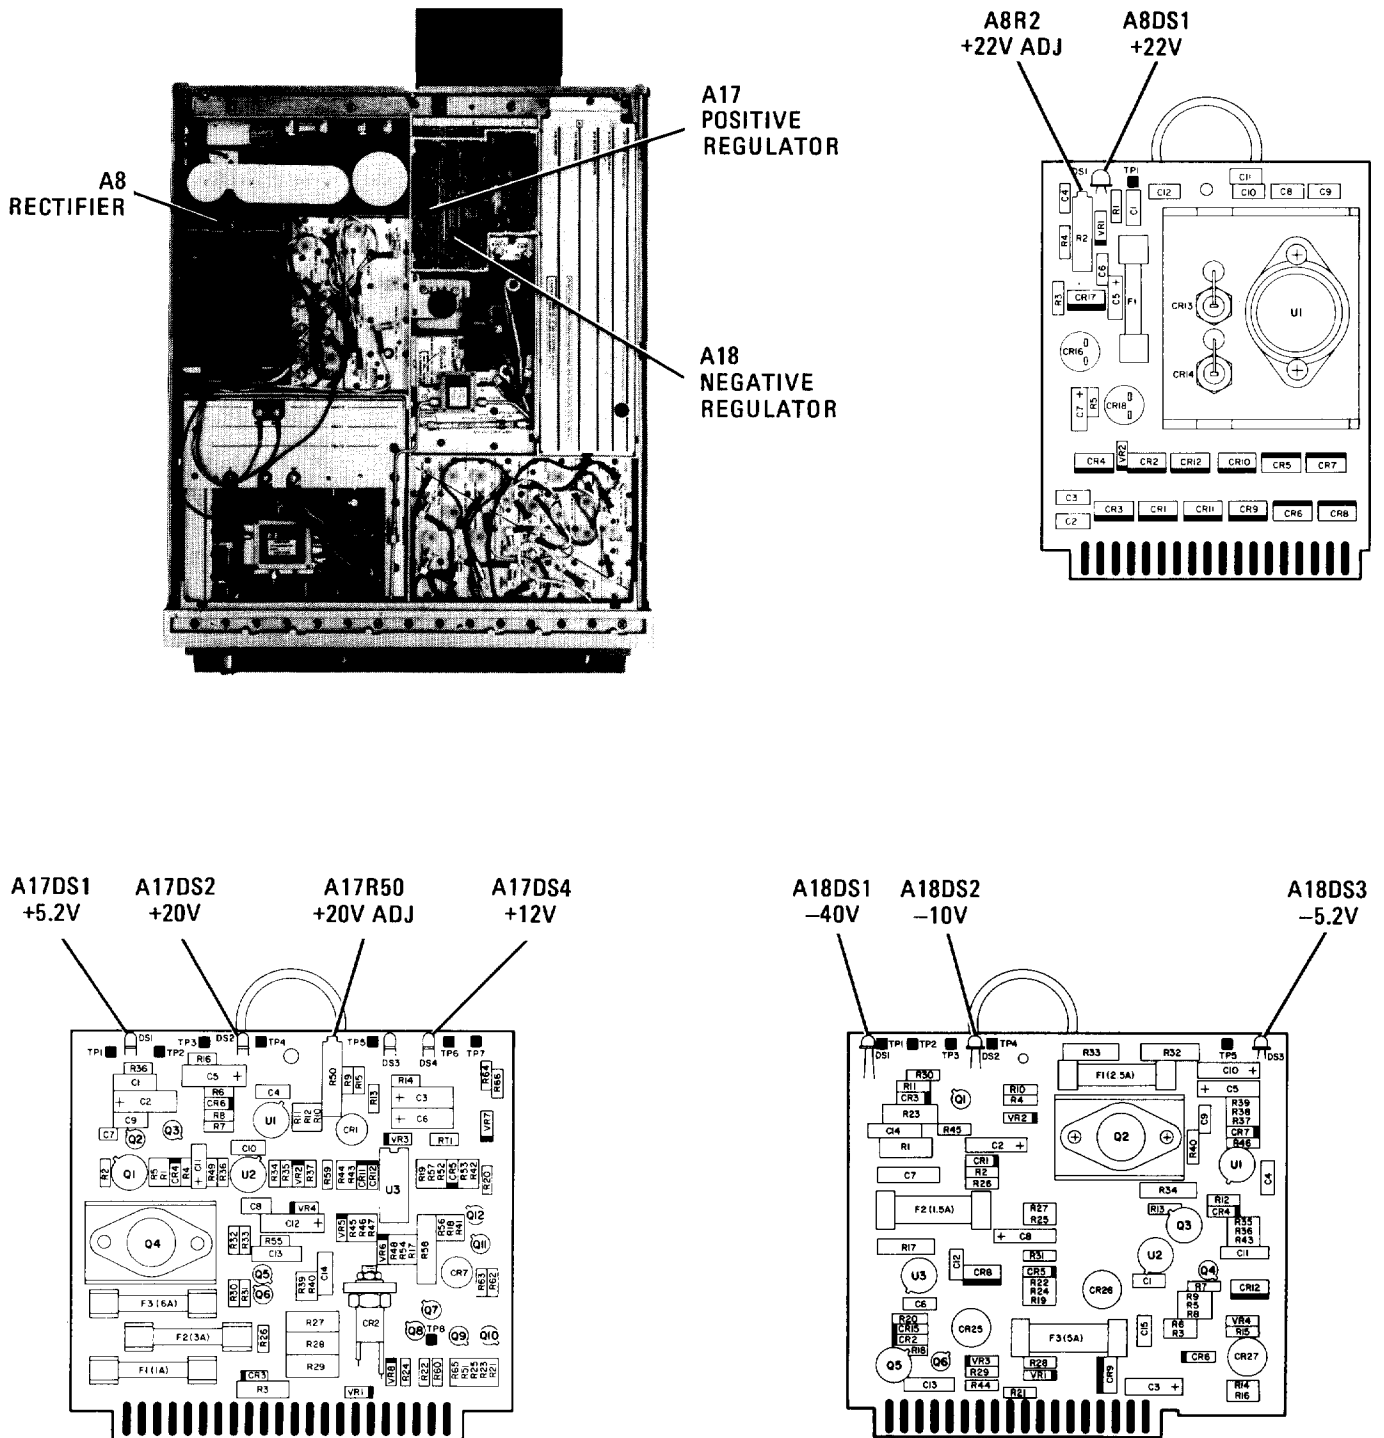

FIGURE 3. LOCATION OF RF SECTION LOW VOLTAGE ADJUSTMENTS
12. Adjust A8R2 $+22\text{V ADJ}$ for DVM indication of $+22.000 \pm 0.020 \text{ Vdc}$. Location of adjustment is shown in Figure 3.